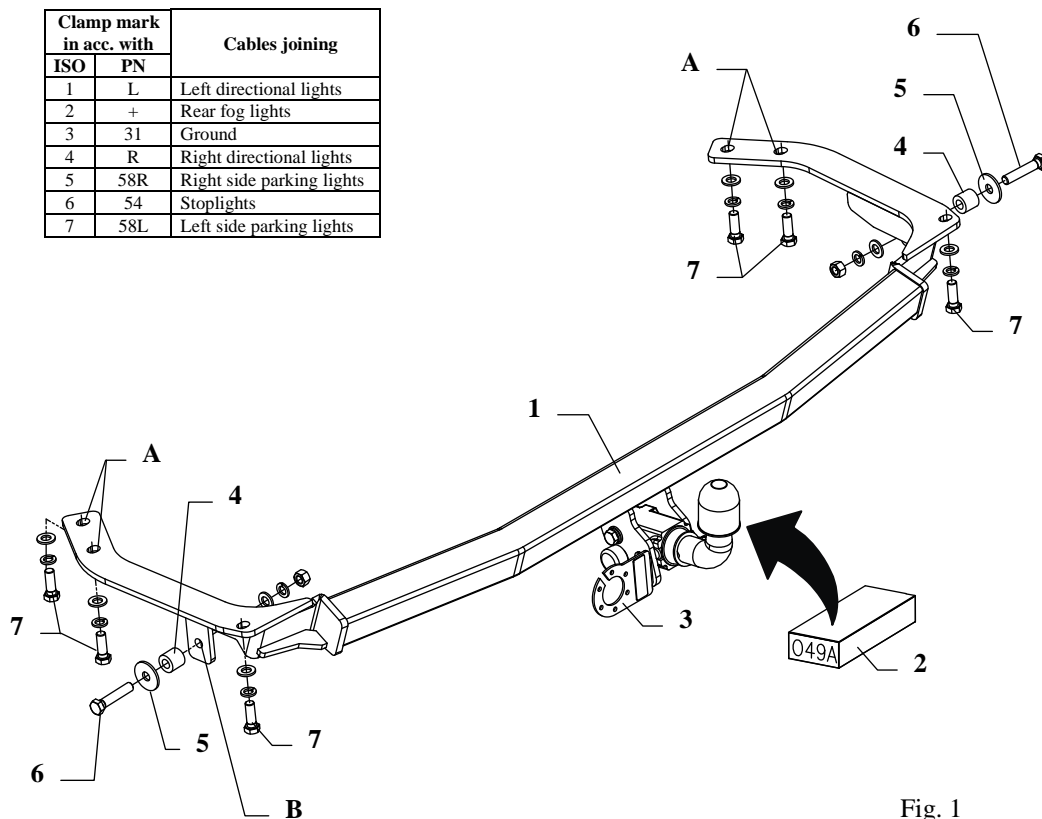

Fig. 1
3. Apply the main bar of the towbar (pos. 1) to the automobile frame, that way so holes of the towbar (pos. A) be covered with factory-made threaded holes. Fix using bolts M12x1,25x35mm (pos. 7).
4. Through holes (pos. B) fix with factory-made holes. Use distance sleeves $\varnothing 25 \times \varnothing 13 \text{mm}$, $L=23 \text{mm}$ (pos. 4), washers $\varnothing 37 \times \varnothing 13 \times 3 \text{mm}$ (pos. 5) and bolts M12x60mm (pos. 6) as showed on the fig. 1.